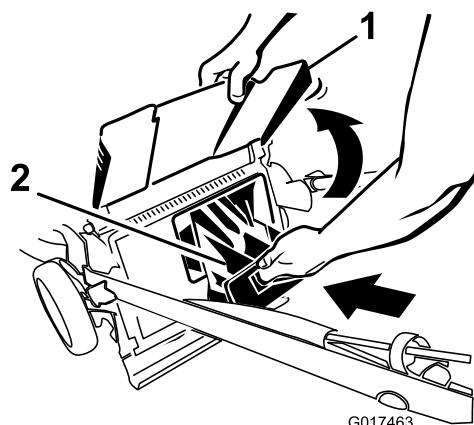

Figure 23
4. Install the rear-discharge plug (Figure 23).